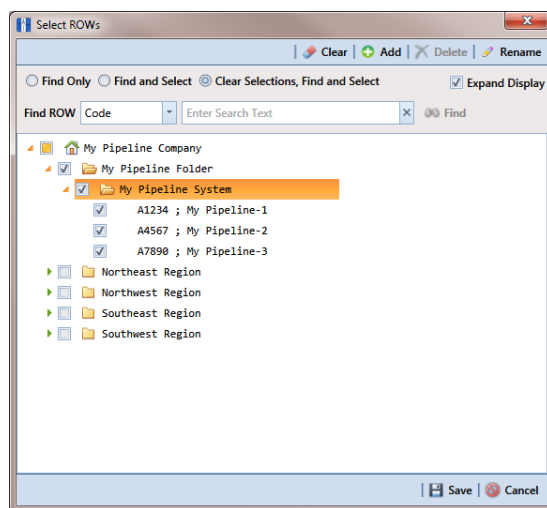

Figure 3-10. Select ROWs
- 1 Click **File > Select ROWs** to open the *Select ROWs* window (Figure 3-10).